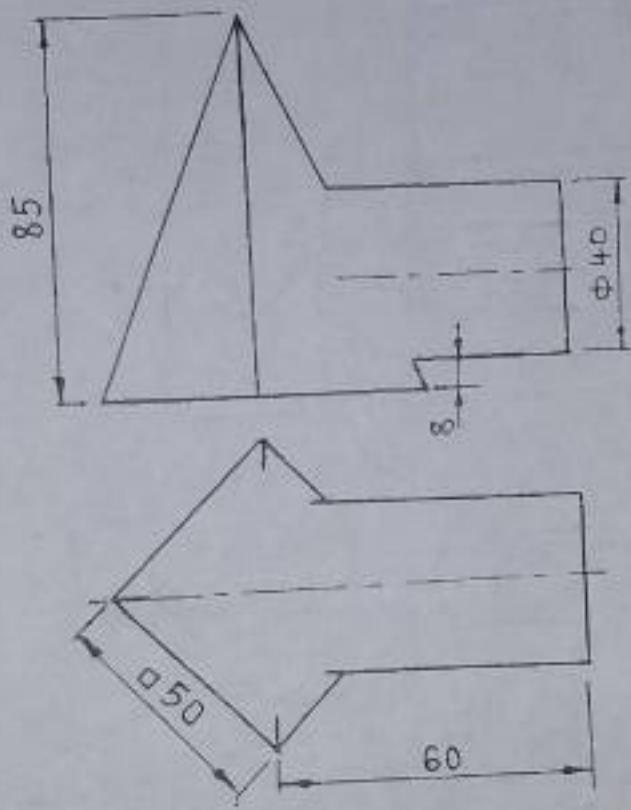

Fig. 3
3. Incomplete elevation and plan of a cylinder interpenetrating a square pyramid at right angle are shown in figure 3.